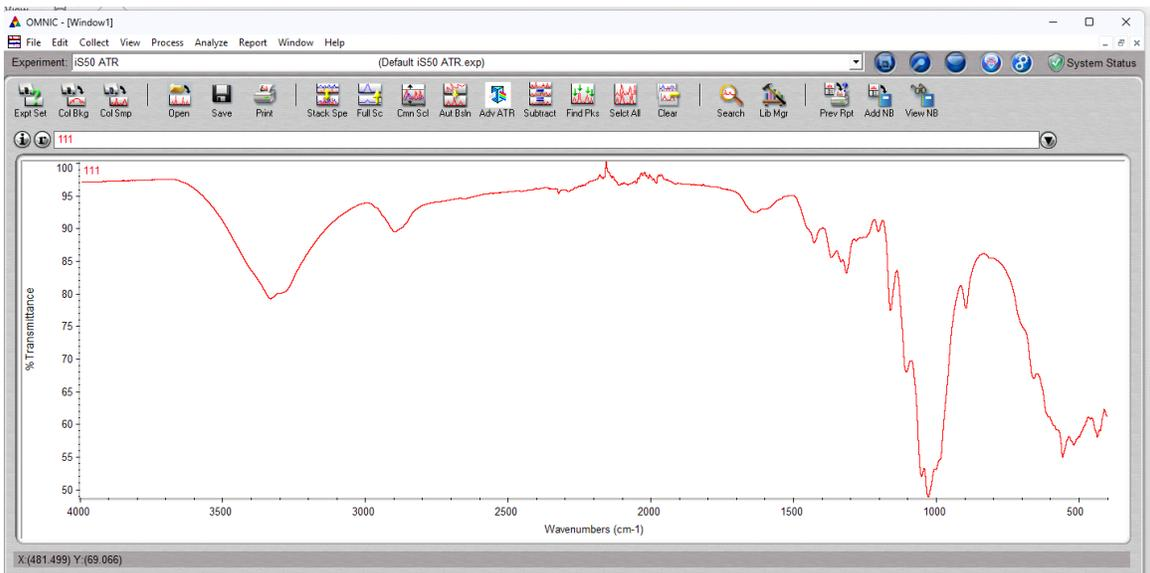

Figure 24. Transmission Data Graph
14. The transmission data will look like Fig 24.